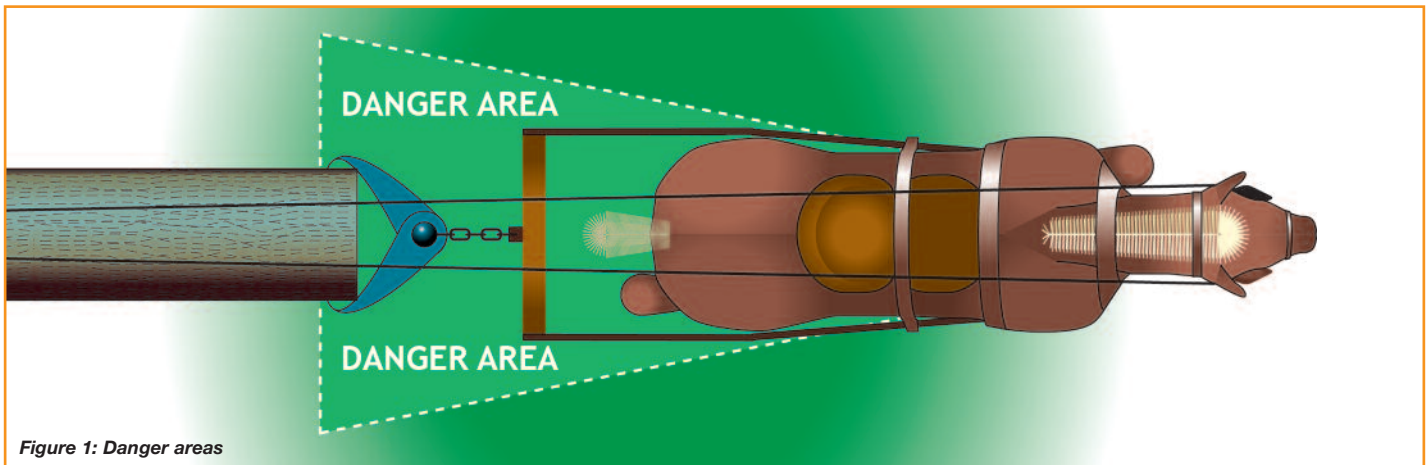

Figure 1: Danger areas
- avoid being caught between a tree/obstacle and the load on tight turns or in confined spaces (see *Figure 1*);